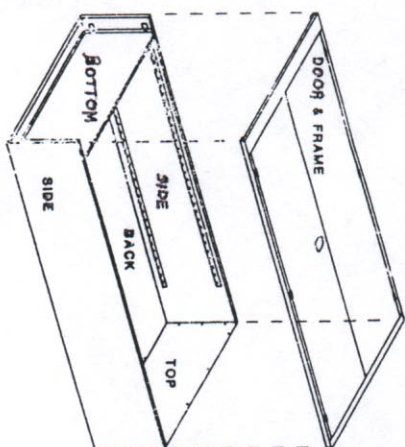

FIGURE 1.1
STEP 1. BODY ASSEMBLY (FIG. 1.1)